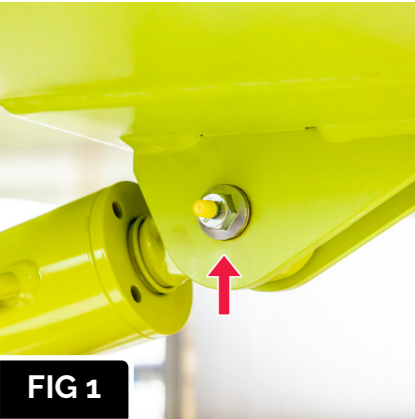

FIG 1
- ▶ If required, apply grease to each point with suitable grease using a grease gun (fig 1 to fig 8). The Ecovolve range requires just one pump of a standard grease gun.